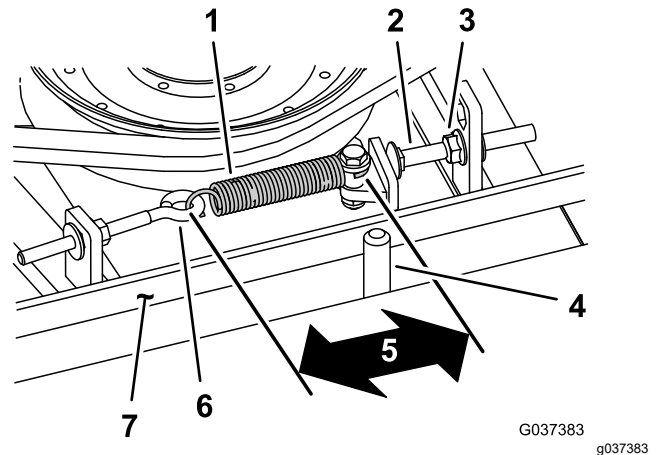

Figure 80
When properly tensioned, the inside measurement of the extension spring (hook to hook) should be approximately 8.3 to 9.5 cm (3-1/4 to 3-3/4 inches). Once the correct spring tension is attained, adjust the stop bolt (carriage bolt) until there is approximately 2 to 5 mm (0.065 to 0.185 inch) clearance between the head of the bolt and the idler arm (Figure 80).
Note: Ensure that the belt is positioned on the spring side of the belt guide (Figure 80).
2. Loosen the eye bolt allowing the removal of the extension spring (Figure 80).
3. Loosen the flange nut securing the stop bolt to the mounting tab and move the idler pulley away from the belt to release the belt tension (Figure 80).
9. Connect the extension spring (Figure 80) to the eye bolt and tension the belt as follows: